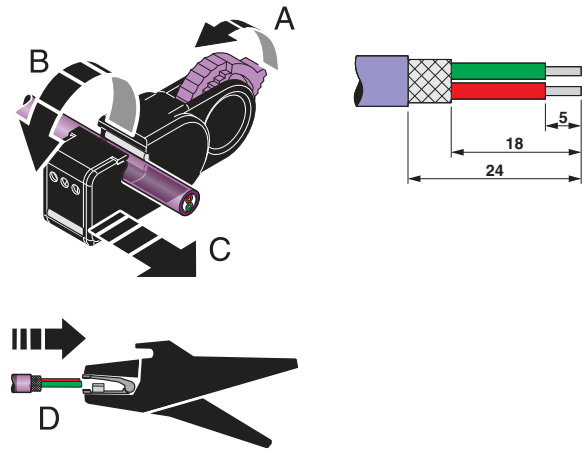

Figure 4 Stripping
- Strip off the conductors (see Figure 4).